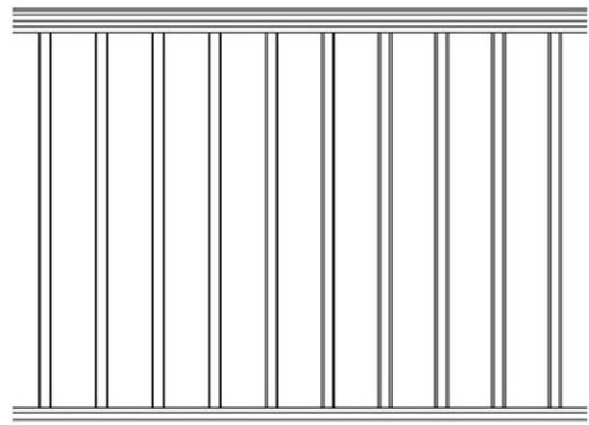

FIGURE 9
4. Adjust the whole section to plumb and level. As shown in Figure 9.